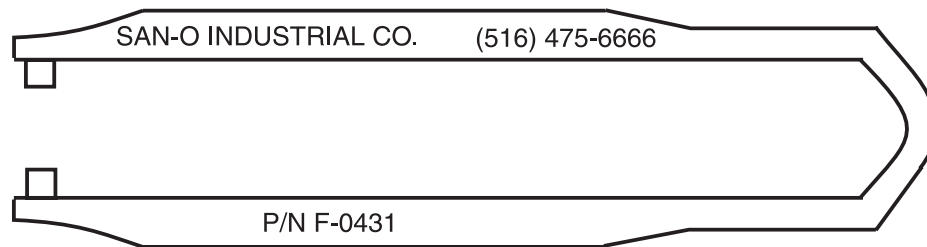

Figure 4 – WP-90247 Fuse Extractor Tool
3. Replace blown fuses using WP-90247 fuse extractor tool or equivalent (Figure 4).